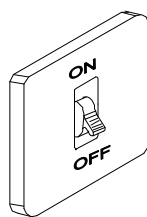

Figure 16
1. Turn off the power (Figure 16);